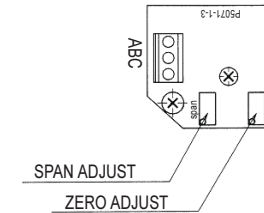

Fig.7 P.C. board
- To apply the positioner in reverse operation (counter-clockwise), specify the accessory classification JR when ordering. Alternatively, to change the operation of the delivered product, rearrange the cam to the opposite side and switch the terminals A and C (refer to Fig.7), to reverse the direction of the output signal.